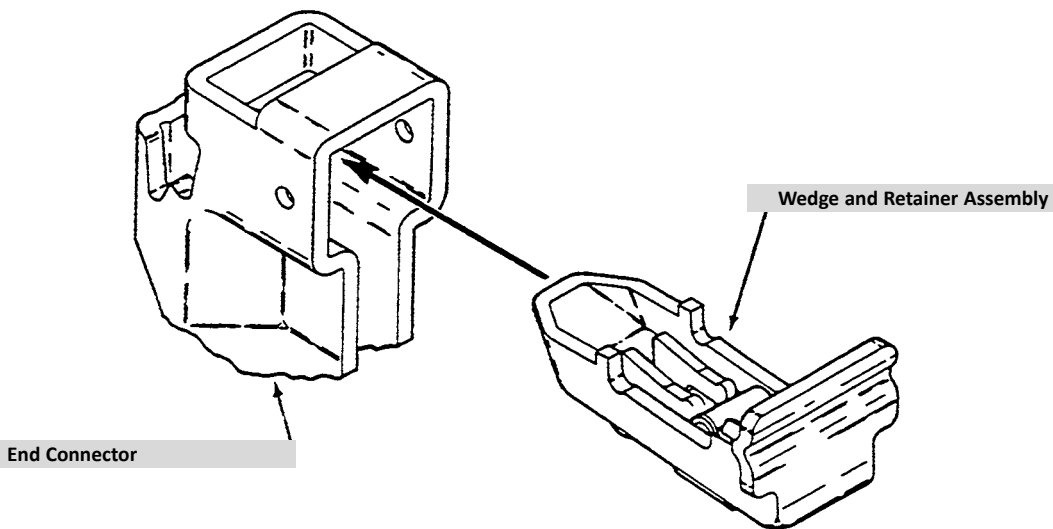

Figure 3 – Systems™ Scaffold Wedge Retainer
2. Insert the assembled wedge/retainer into the end connector (Fig. 3).